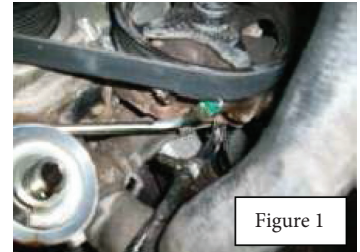

Figure 1
2. Locate the pressure fitting on the pump (Figure 1).